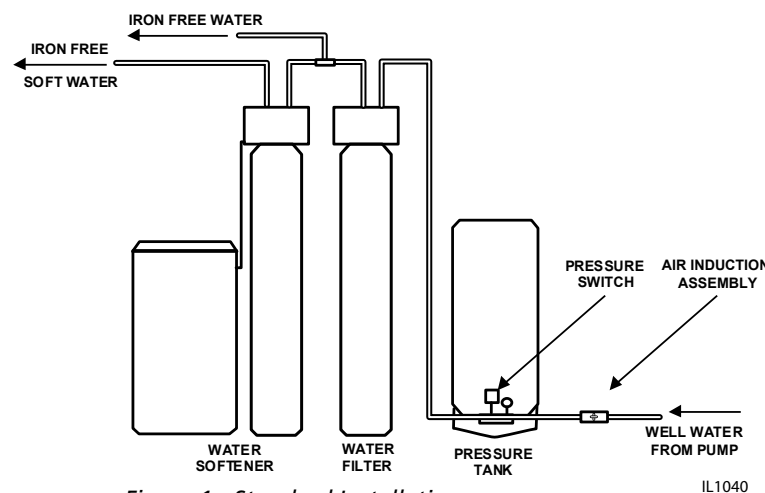

Figure 1 - Standard Installation
3. Locate in correct relationship to other water treatment equipment (See Figure 1).
2. All water MUST pass through the air induction assembly, pressure tank and the Chemical-Free Iron Filter (See Figure 1)